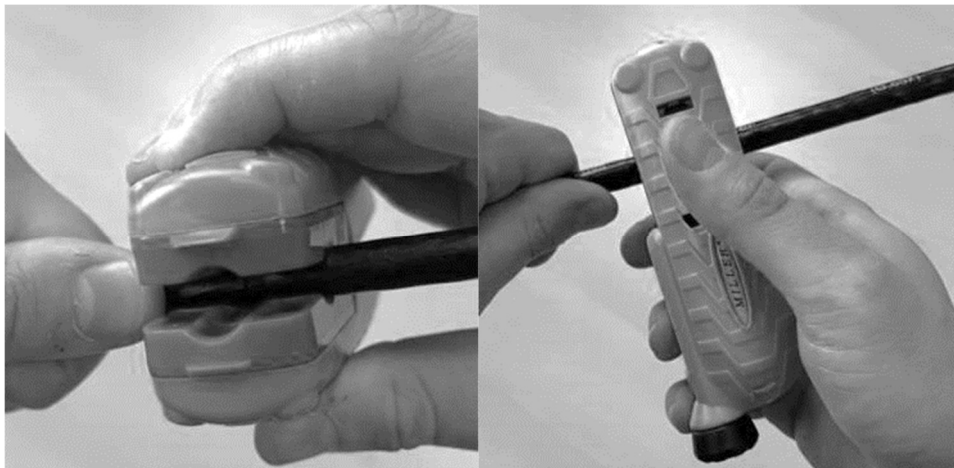

Figure 2 - Ring cut the cable sheath
4.2 Use the Miller MB02 to ring cut the cable at the measured mark, by lightly scoring rather than cutting all the way through the cable sheath (Figure 2).